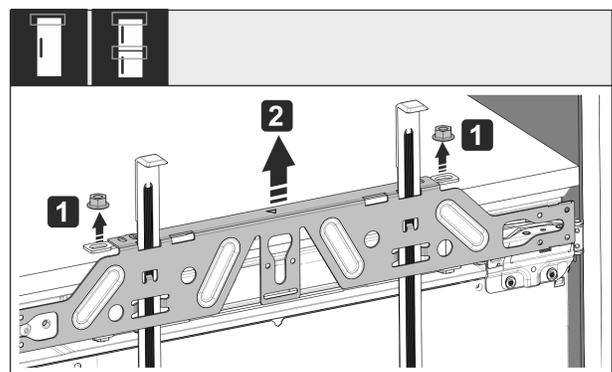

Fig. 47
- ▶ Loosen locknuts Fig. 47 (1).
- ▶ Remove crosspiece Fig. 47 (2).